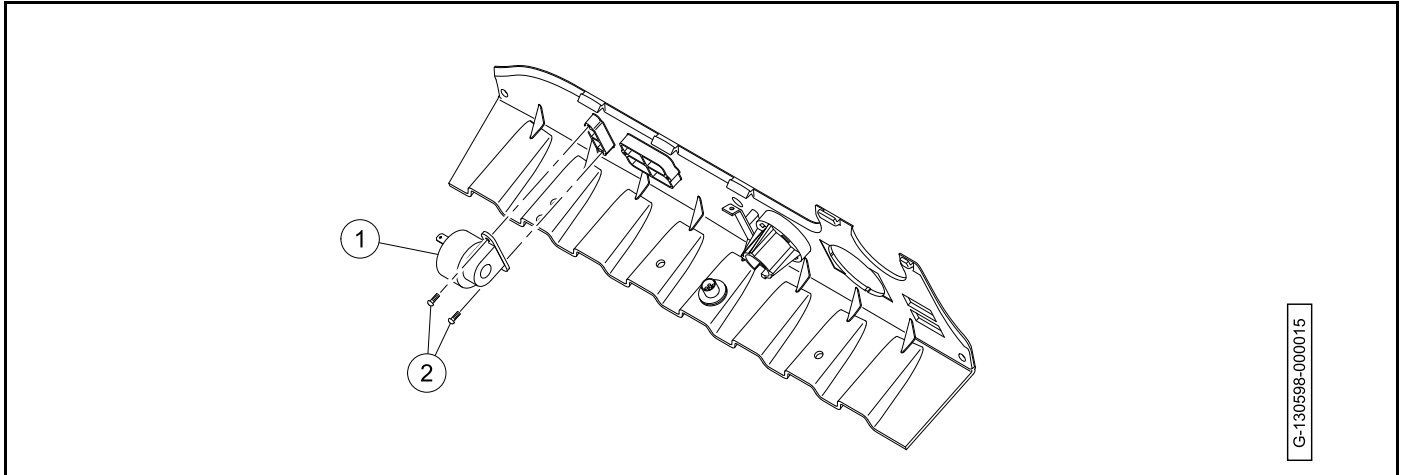

Figure 19-39 Multi-Purpose Buzzer
3. Disconnect the wires from the multi-purpose buzzer (1) (**Figure 19-39, Page 19-35**).
4. Remove the two mounting screws (2).
1. Install the multi-purpose buzzer (1) onto the instrument panel (**Figure 19-39, Page 19-35**).
2. Install the screws (2). Tighten the screws to 3.5 lb·in (0.40 N·m).